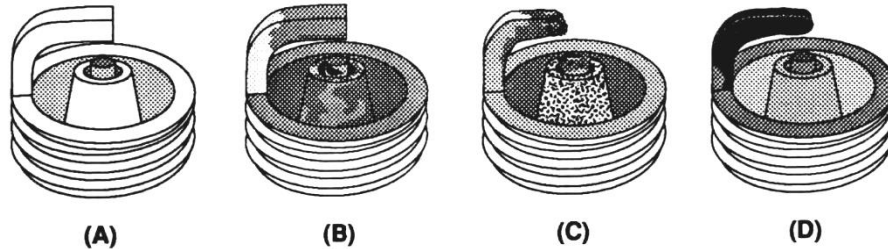

Figure 22 Spark Plug Condition
1. Perform a dynamometer pull or a full throttle pass down the racetrack. Note the power reading or vehicle mph (not e.t.). Examine the spark plugs for an indication of lean or rich nitrous/fuel conditions (refer figure 22 for tips on reading the spark plugs). For this application, the air/fuel mixtures at WOT tend to be very rich in stock form. You may wish to examine a plug after a NO-nitrous pass or dyno pull for comparison purposes.